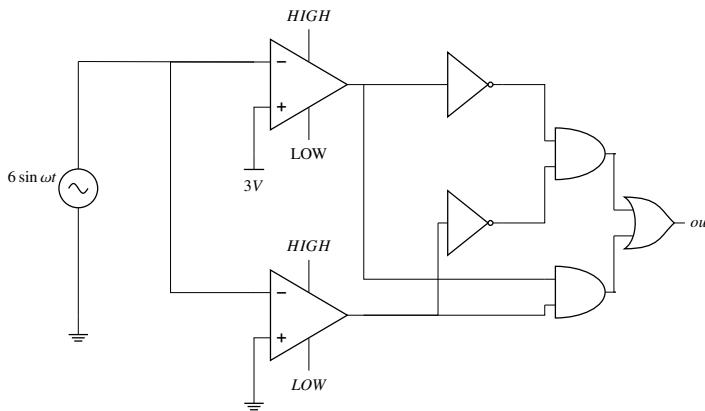

Fig. 3.24: Circuit Daigram
40. In the circuit shown below in Fig. 3.24, assume that the comparators are ideal and all components have zero propagation delay. In one period of the input signal $V_{in} = 6 \sin(\omega t)$, the fraction of the time for which the output OUT is in logic HIGH is (GATE-IN2019,34)